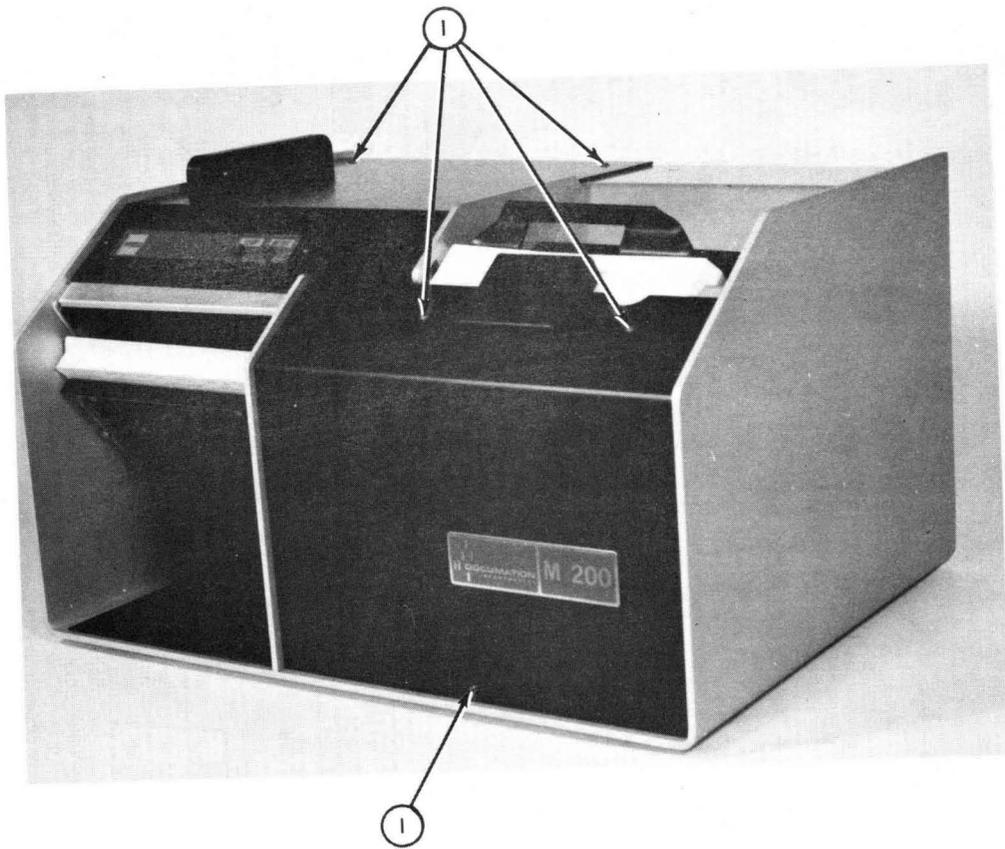

Figure 20. Three-Quarter Front View
After each 160 hours of operation, the card track should be cleaned. Using a 5/64 Allen wrench, remove four button head screws (3), figure 20, holding top panel cover. Remove this cover and use a vacuum cleaner to remove any card debris buildup around the picker and stacker castings. Use a small brush to clean around the picker and stacker rollers and picker sector.
1. Using a flat blade screwdriver or a 5/64 Allen wrench, LOOSEN five DZUS fasteners or remove five 6 x 32 button head screws (1) retaining top cover, figure 20.